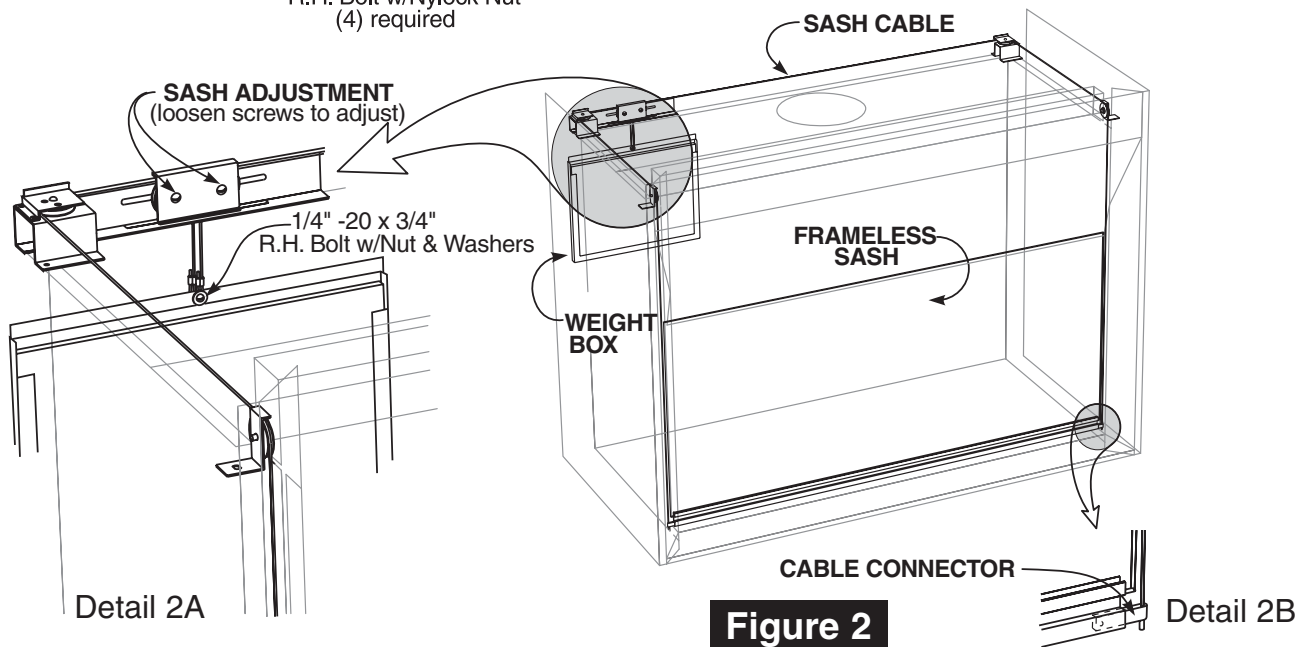

Figure 2
5. Check that **Sash Cables** are properly routed over front pulleys, around rear pulleys, and through the **Sash Adjustment** pulleys. (see Figure 2)
6. Attach **Weight Box** to cables using one (1) 1/4" -20 x 3/4" R.H. Bolt, Nylock Nut, and two (2) Flat Washers (bolt, nut, and washer shipped attached to cable ends)